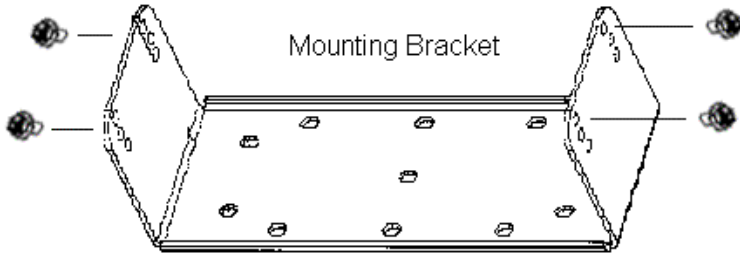

Figure 9 – Mounting Radio to Bracket
3. Place the radio into the mounting bracket and secure with the four 3/8" Phillip's screws supplied. The radio can be fastened in any of three different positions: parallel to the mounting surface or tilted slightly from the parallel position. (Refer to Figure 9.)
3. Refer to Figure 9 for instructions on connecting the External Speaker option and Figure 10 for instructions on connecting the Internal/External Speaker option.